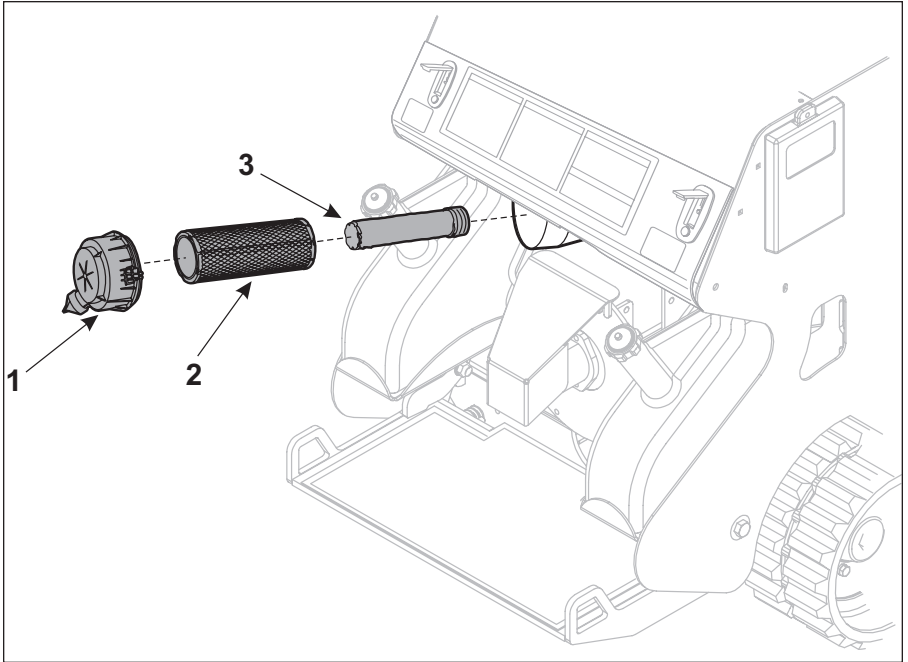

Figure 4-17 Check Engine Air Filter
3. Check air filter and replace outer paper element (Item 2, Figure 4-17).
4. Replace the outer paper element (Item 2, Figure 4-17) and check inner element (Item 3, Figure 4-17)